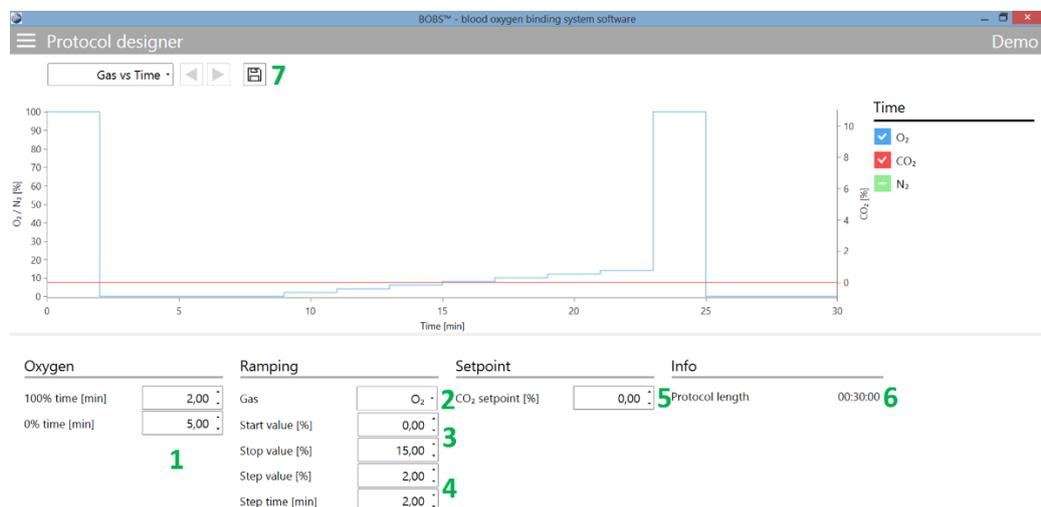

Figure 23: Protocol designer
2. Modify the duration for the 100% and 0% O₂ calibration periods, which determines the range of pigment oxygenation (1, Figure 23).
3. Choose if O₂ or CO₂ should be ramped (2, Figure 23).
4. Choose start and stop values to determine the O₂/CO₂ ramping range (3, Figure 23).
5. Enter by how much O₂/CO₂ should increase at each step and how long each step should last (4, Figure 23).
6. Choose the CO₂/O₂ concentration, which will remain constant during ramping (5, Figure 23).
8. The duration of the total experiment is displayed (6, Figure 23). The experiment is previewed in the graph.
9. Save the protocol (7, Figure 23).